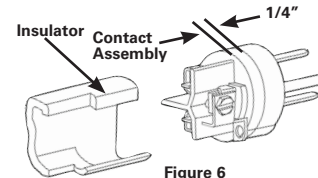

Figure 6
6. Slide insulator/cord clamp down cord and position over terminals. The insulator has 2 slots that engage with the arc barrier walls and provide proper orientation. Take care to align insulator properly, then slide insulator to within 1/4" of surface of contact assembly. (See Figure 6)